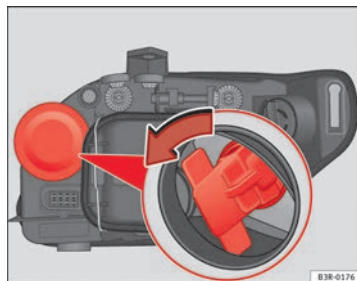

Fig. 206 Turn signal
- Remove the bulb holder by pulling on the grip and turning it anticlockwise ⇒ Fig. 206.